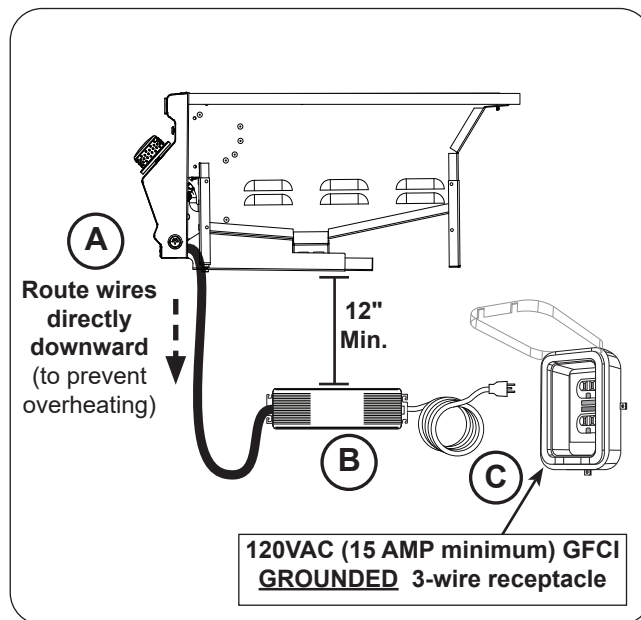

Fig. 30-1 Power supply installation
1. Route the wire harness extension below the control panel and directly downward. This will prevent overheating. **DO NOT** route the wire extension below the griddle. See Fig. 30-1, A.
2. Mount the power supply to the inside of the enclosure using appropriate hardware for your enclosure. See Fig. 30-1, B. **The power supply MUST BE:**
3. Connect the cord coming from the power supply to a **120VAC (15 AMP minimum) GFCI GROUNDED three-wire receptacle** (see Fig. 30-1, C). The GFCI receptacle must be a WEATHER-PROOF IN-USE COVERED RECEPTACLE.